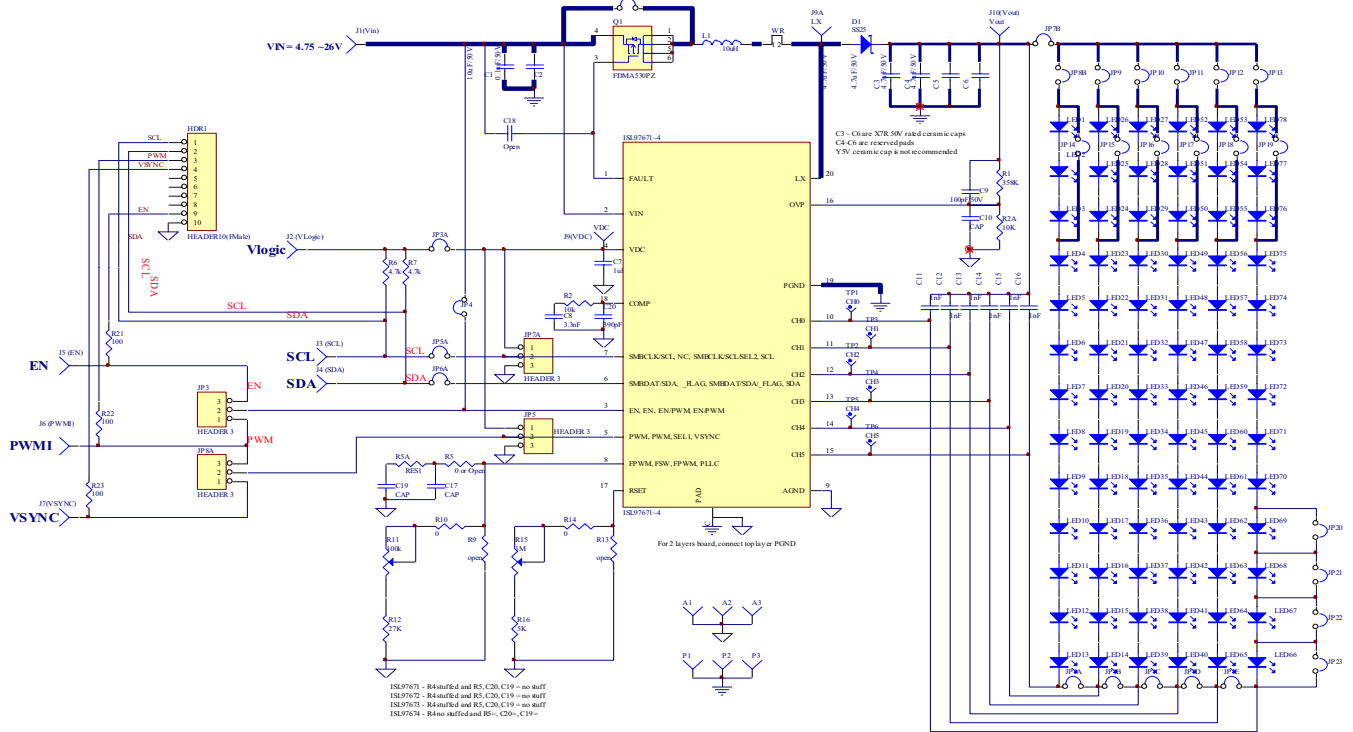

**FIGURE 4. I2C INTERFACE BOARD CONNECTED TO ISL97674IRZ-EVAL EVALUATION BOARD**
4. Connect the I2C interface board to the ISL97674IRZ-EVAL Evaluation Board, as shown in Figure 4.